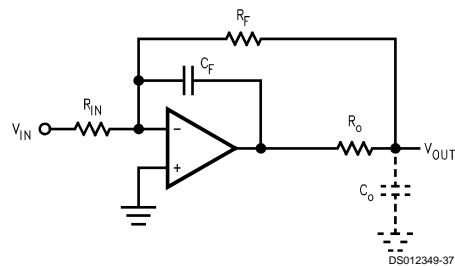

FIGURE 6.
*Figure 6* shows a method for compensating for load capacitance ( $C_o$ ) effects by adding both an isolation resistor  $R_o$  at the output and a feedback capacitor  $C_f$  directly between the output and the inverting input pin. Feedback capacitor  $C_f$  compensates for the pole introduced by  $R_o$  and  $C_o$ , minimizing ringing in the output waveform while the feedback resistor  $R_f$  compensates for dc inaccuracies introduced by  $R_o$ . Depending on the size of the load capacitance, the value of  $R_o$  is typically chosen to be between  $100\Omega$  to 1 k $\Omega$ .